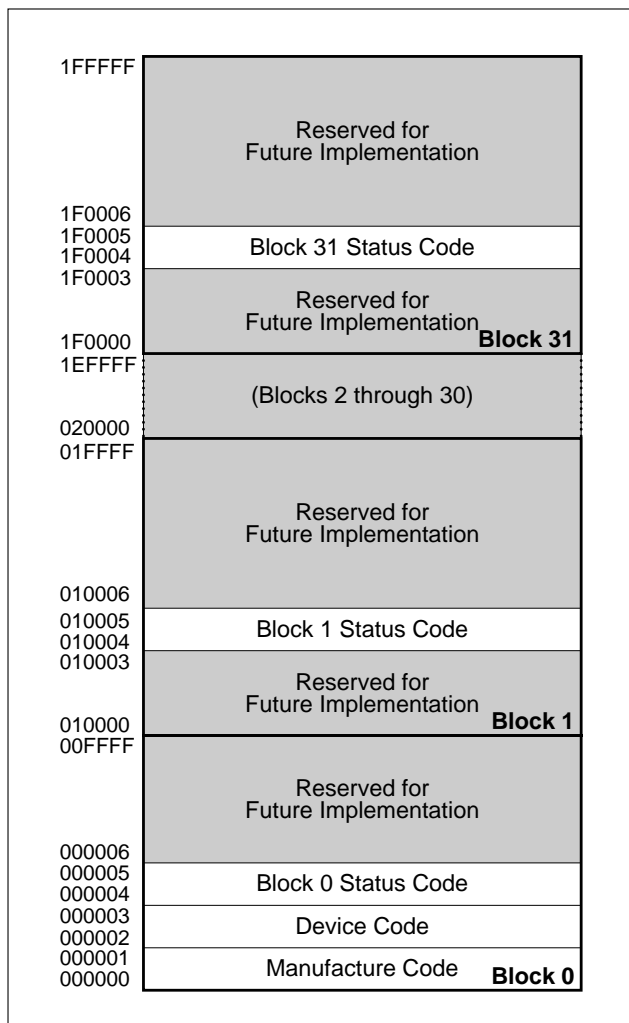

Fig. 2 Device Identifier Code Memory Map
The read identifier codes operation outputs the manufacture code, device code, block status codes for each block (see Fig. 2). Using the manufacture and device codes, the system CPU can automatically match the device with its proper algorithms. The block status codes identify locked or unlocked block setting and erase completed or erase uncompleted condition.
IA = Identifier code address : see **Fig. 2**.
The identifier code operation is initiated by writing the Read Identifier Codes command. Following the command write, read cycles from addresses shown in **Fig. 2** retrieve the manufacture, device, block lock configuration and block erase status (see **Table 4** for identifier code values). To terminate the operation, write another valid command. Like the Read Array command, the Read Identifier Codes command functions independently of the V_{PP} voltage and RP# must be V_{IH}. Following the Read Identifier Codes command, the following information can be read :
1. X selects the specific block status code to be read. See **Fig. 2** for the device identifier code memory map.